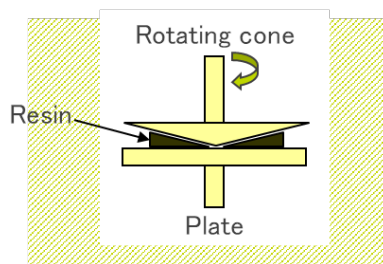

Figure 1
8.1.5 Figure 1 shows the schematic diagram of rotational viscosity measurement. that testing fixture with a plate port at the bottom and a rotating cone port at the top.